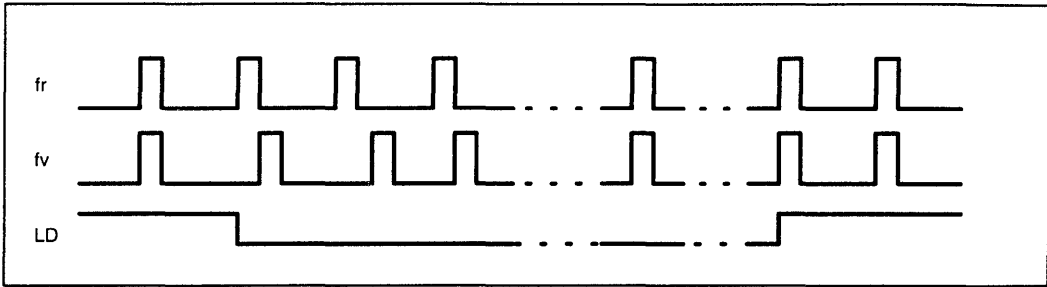

Figure 2. Phase Comparator Input/Output Waveform (Lock Detector)
The lock detector detects the lock and unlock states of the PLL. The lock detector outputs "H" when the PLL enters the lock state and outputs "L" when the PLL enters the unlock state as shown in Figure 2. When the pulse width of the error signal is kept zero for four (4) clocks, the lock detector outputs "H" as a lock signal. When it detects a phase difference after the PLL is locked, "L" is output at once.